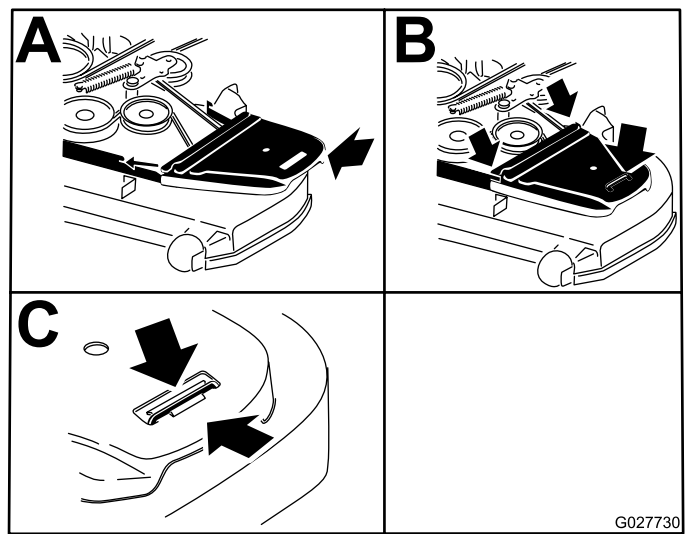

Figure 89
12. Install the belt covers (Figure 89).